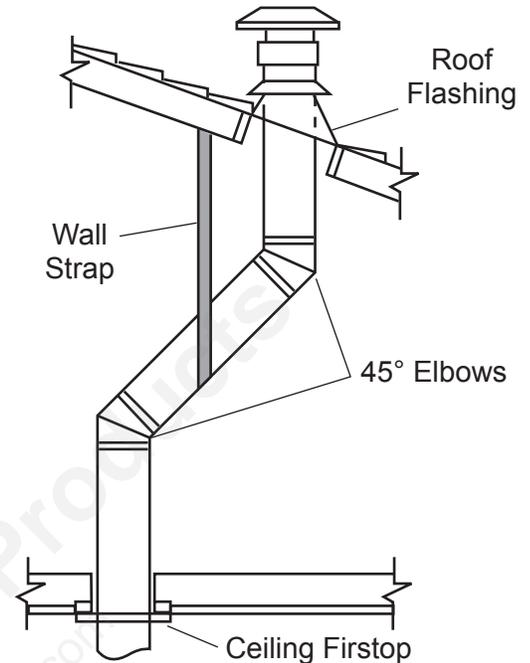

Figure 18 - Offset with Wall Strap and 45° Elbows
1. Determine the route your vertical venting will take. If ceiling joist, roof rafters or other framing will obstruct the venting system, consider an offset. See *Figure 18* to avoid cutting load bearing members.
NOTE: If an offset is needed to avoid obstructions, you must support the vent pipe every three (3) feet. Use wall straps for this purpose. See Figure 18, page 17. Whenever possible, use 45° elbows instead of 90° elbows. The 45° elbow offers less restriction to the flow of the flue gases and intake air.
5. Place the flashing over the pipe section(s) extending through the roof. Secure the base of the flashing to the roof and framing with roofing nails. Be sure roofing material overlaps the top edge of the flashing as shown in Figure 18, page 17. There must be a 1" clearance from the vent pipe to combustible materials.